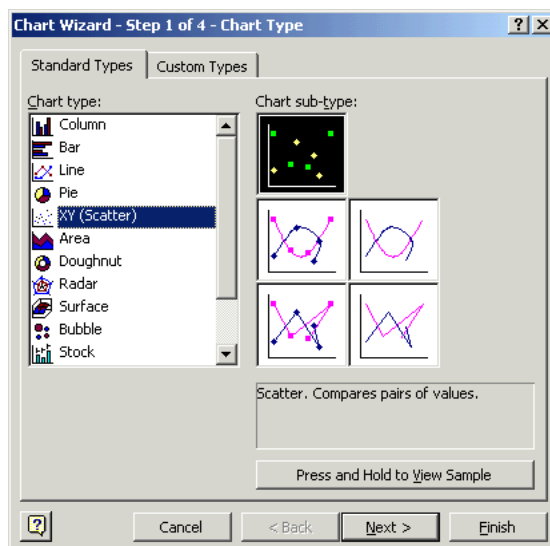

Figure 1. Choosing graph type and sub-graph type.
3. For the sub-graph type, select the one without any lines connecting the data points. (See Figure 1.) You can click and hold on the button that says “Press and Hold to View Sample” to see a preliminary view of what your graph will look like.